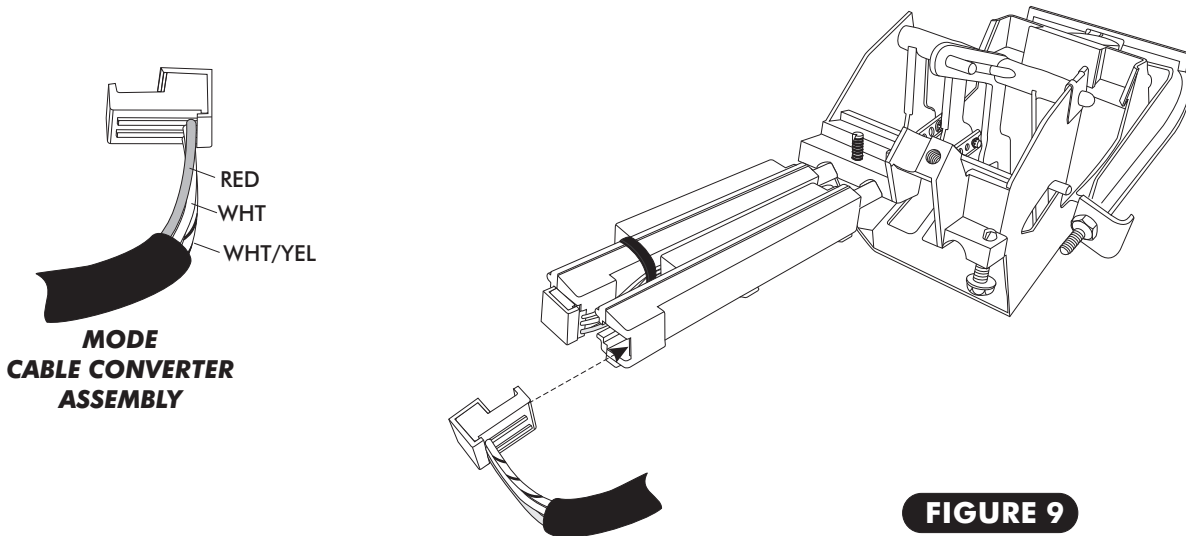

FIGURE 9
- LOCATE THE CONTROL PANEL WIRE HARNESS AND PLUG THE CORRESPONDING WIRES INTO THE CORRECT CABLE CONVERTER ASSEMBLY AS SHOWN IN FIGURE 9 BELOW.